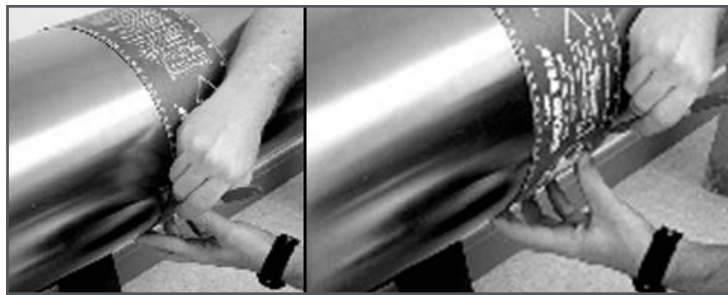

Figure 14: Measuring and Marking Circumference Lines
3. Measure the outside diameter (OD) of the pipe using a tape measure or the supplied layout wrap. Using the entire layout tape, mark two circumferential lines along the edges of the wrap, as shown in *Figure 14*.